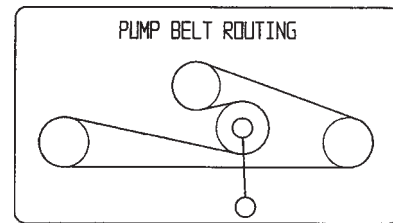

Figure 68
1. Pull the spring loaded idler down and remove the traction belt from the engine and hydro pump pulleys (Fig. 68). Remove the belt between the pulleys.
2. Install the new belt around the engine and hydro pump pulleys (Fig. 68).
3. Pull the spring loaded idler down and align it below the traction belt. Release the pressure on the spring loaded idler (Fig. 68).